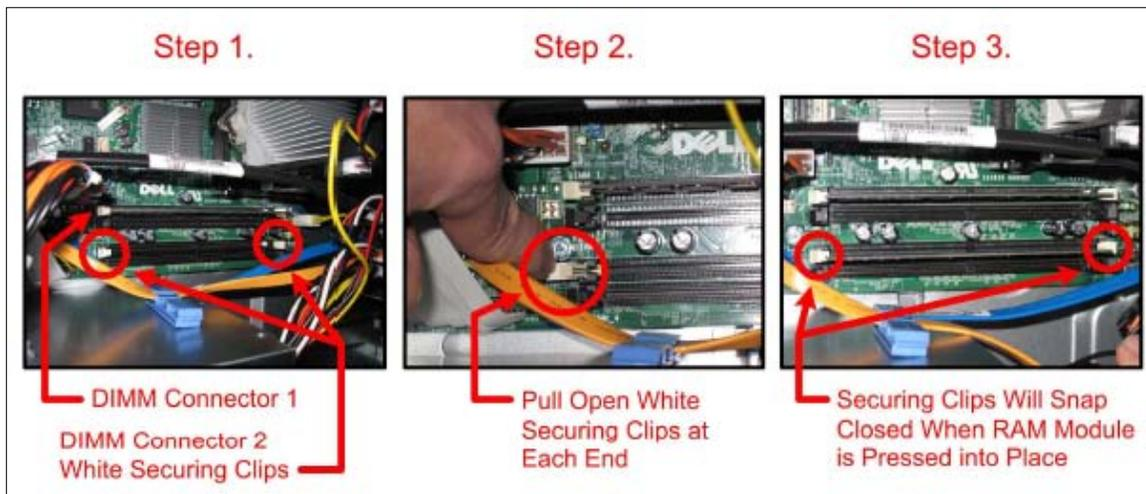

Figure 150: Installing the Memory Module in DIMM Connector 2
- d. Expect to see a single 1 GB module in DIMM Connector 1. Connector 1 is located closest to the processor and has white securing clips. See Figure 150.
- i. Install the additional memory module in the matched memory position, DIMM Connector 2. This is not the connector immediately next to the first, but is the other connector with white securing clips, which is two connectors over (Figure 150).